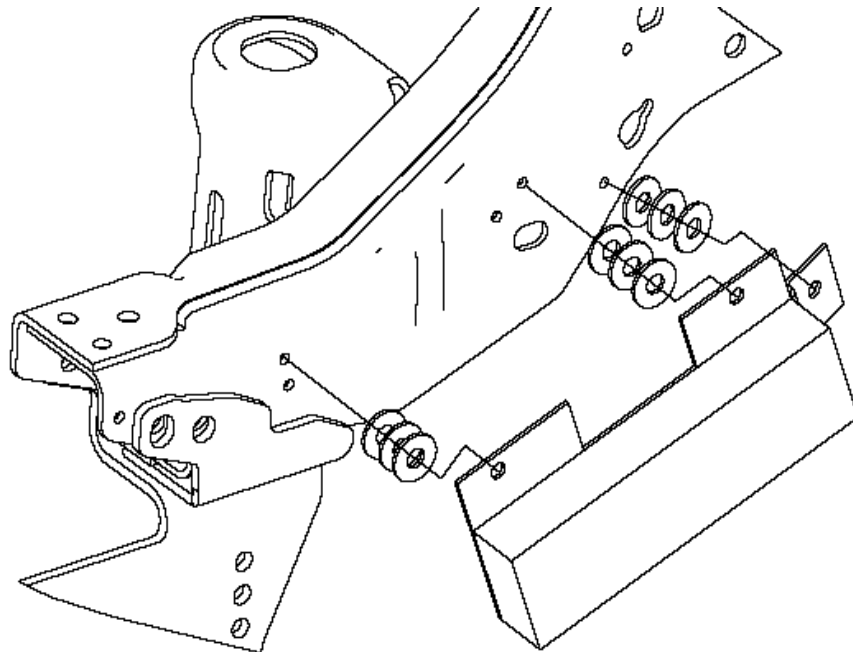

Figure 4
3. Install a stack of washers between the cooler plate and the frame rail. The washers should have a minimum height of .367" or enough that the cooler has clearance between it and the sub-frame Passenger Side Weldment. It is recommended that a washer with an outside diameter of 1.5" is used. The inside diameter is not critical as long as the bolt passes through it. Most 1/2" washers meet this criteria. It is recommended that when reviewing the sub-frame fastener tension every 5 to 10 hours you review this hardware also. See Figure 4. *Note: For representation purposes three washers per bolt have been modeled. Depending on the thickness of your washers this may vary.*